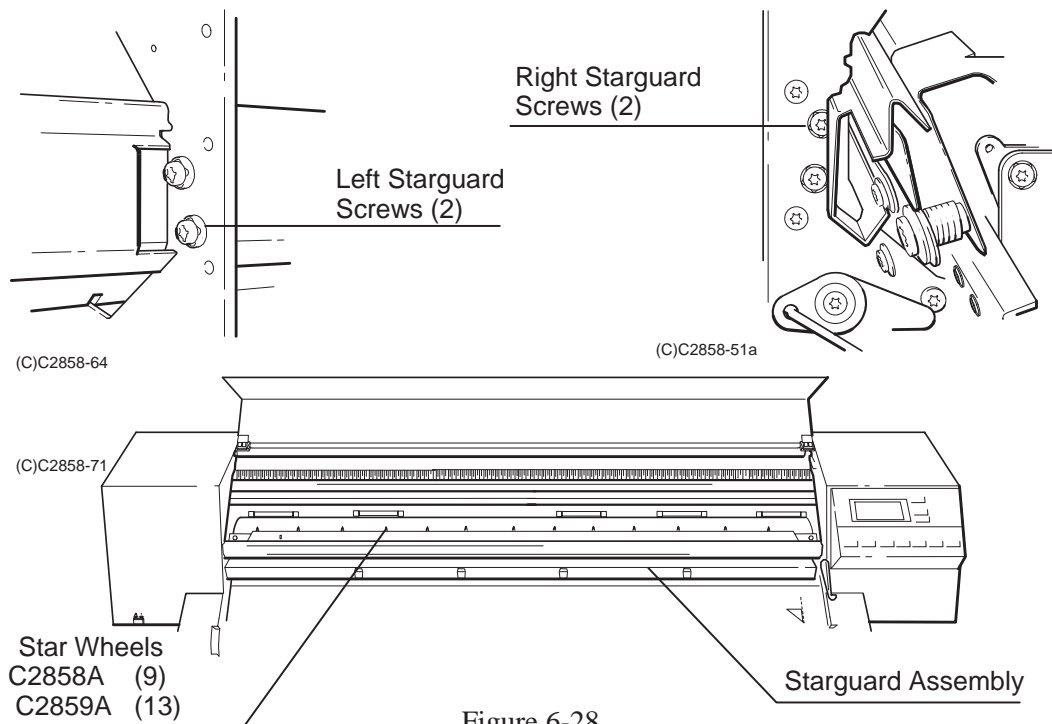

Figure 6-28.
5. Using a TORX T-20 screwdriver, loosen the upper of the two screws that attach the starguard assembly to the left and right sideplates until the ends of the screws are flush with the inner surfaces of the sideplates. See Figure 6-28.